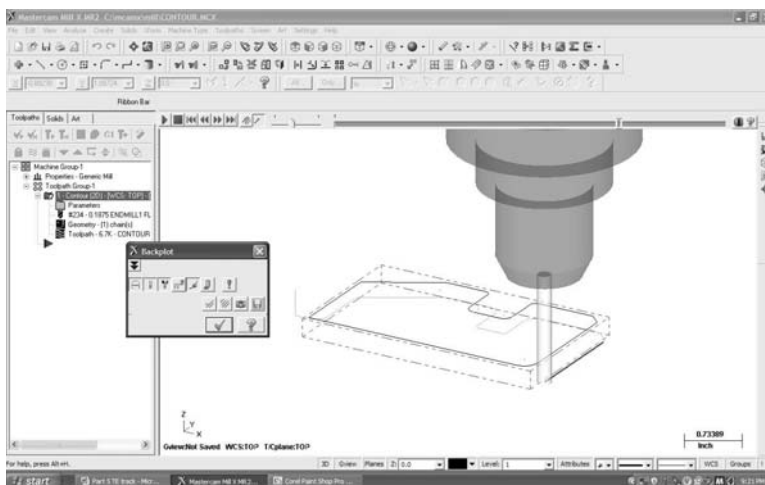

Figure 29 Completed Backplot
- ***Press Back Plot, and then press Play (R) from the player buttons,*** to observe a simulation of the cutters actual path. There are multiple setting options available within the Backplot dialog for the display of the type of tool path, the tool holder and more (See Figure 29). It is also helpful to set the view to isometric for better visualization.